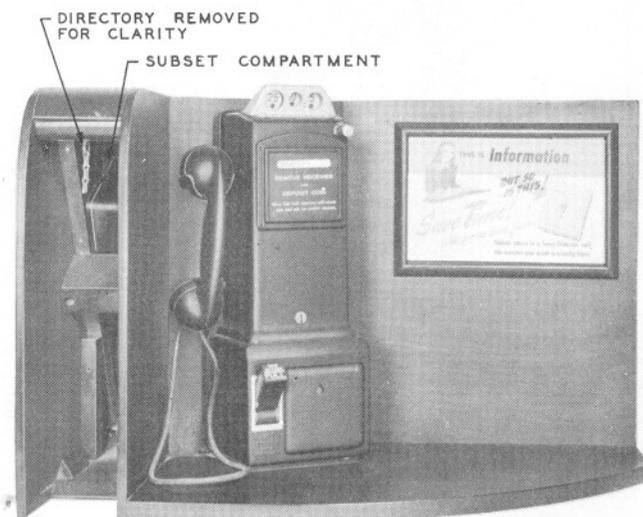

Fig. 18 - Singly Mounted 19A Shelf
13.05 Shelves can be located singly as shown in Fig. 18.
13.09 Store subscriber sets (684- or 531-types) in compartments at the rear of the directory compartment as shown in Figs. 18 and 19.